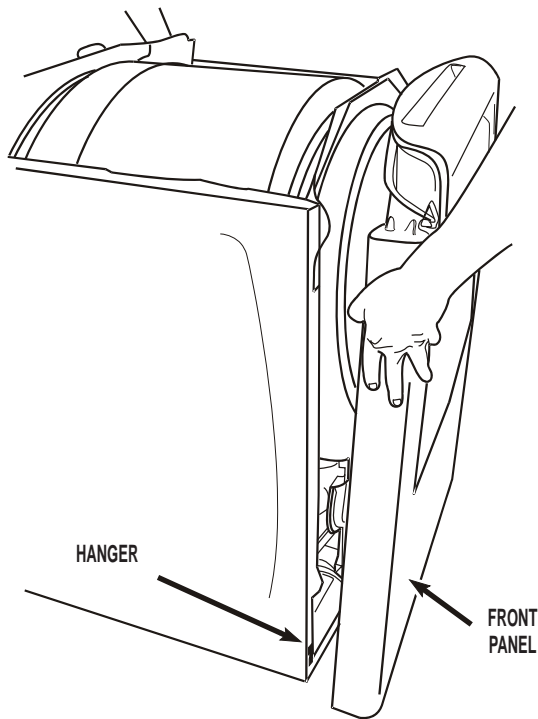

FIGURE 3
8. Lift the front panel, unhook it from the bottom two hangers and remove the panel. See *Figure 3*.